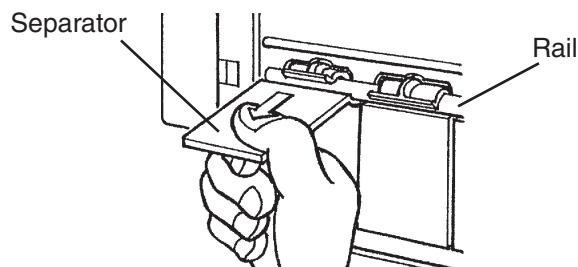

Fig. 47
14) Slide in the water tank along the rails at the bottom of the left and right brackets until it locks into place. See Fig. 47.
16) Hook each separator onto the rail, then pull it hard towards you until it locks into place. See Fig. 47.